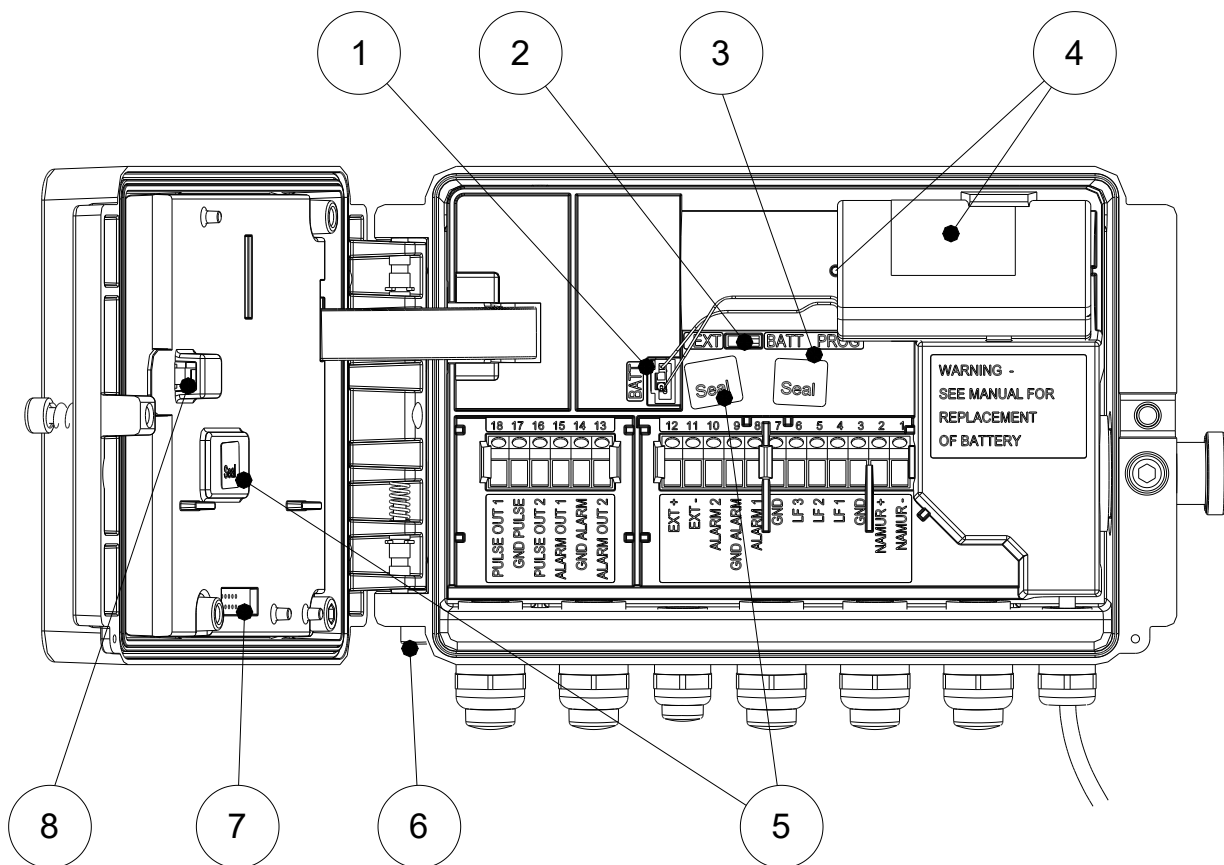

Figure 4. Interior view UNIGAS 300
- 7: Module connector with protective cap (PCB cover not shown in figure 4). Nothing but Wigersma & Sikkema modules can be connected to his module connector. This module connector is retroaction-free, which means that manipulation of the module connector will not affect the calibration functions.